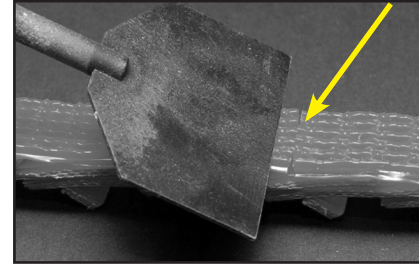

Fig. 6
- Using a hot knife, the SuperGrip Top material can be fused together. Once the hot knife heats up, use it to melt the material adjacent to the splice and push it into the splice. See Fig. 6.